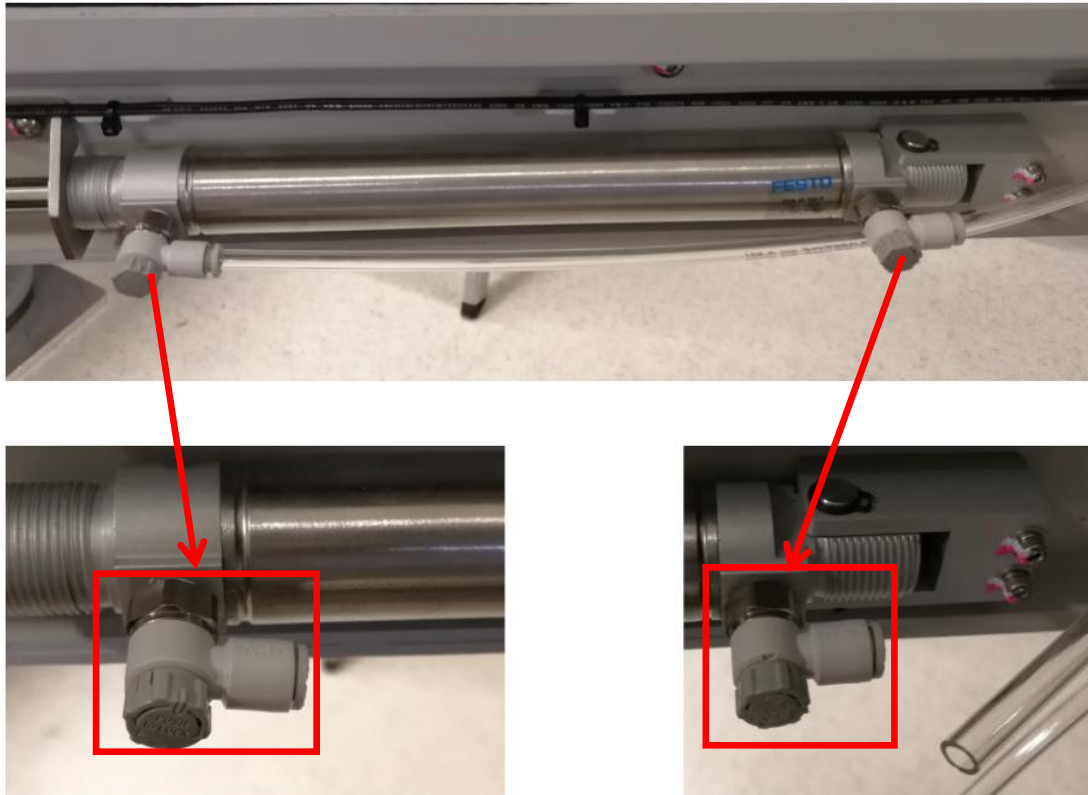

Figure 18
22. Assemble 2 x Outer Barrier Speed Controllers as Figure 18